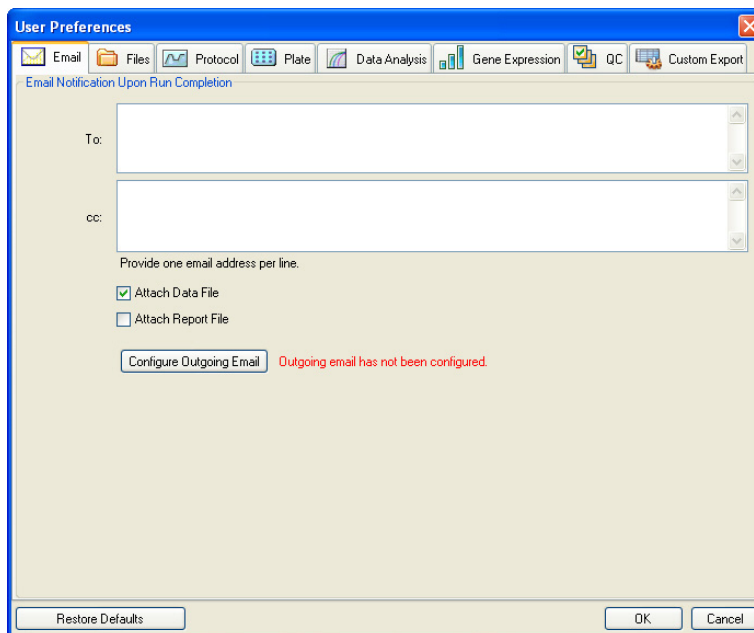

Figure 91. User Preferences window with tabs.
- Click one of the tabs (Figure 91) to view or change preferences
Select the **Email** tab (Figure 91) to enter the email addresses where you want to receive confirmation of the completion of runs. The software can send an attached data file or report file with the email when the checkboxes next to these options are checked.